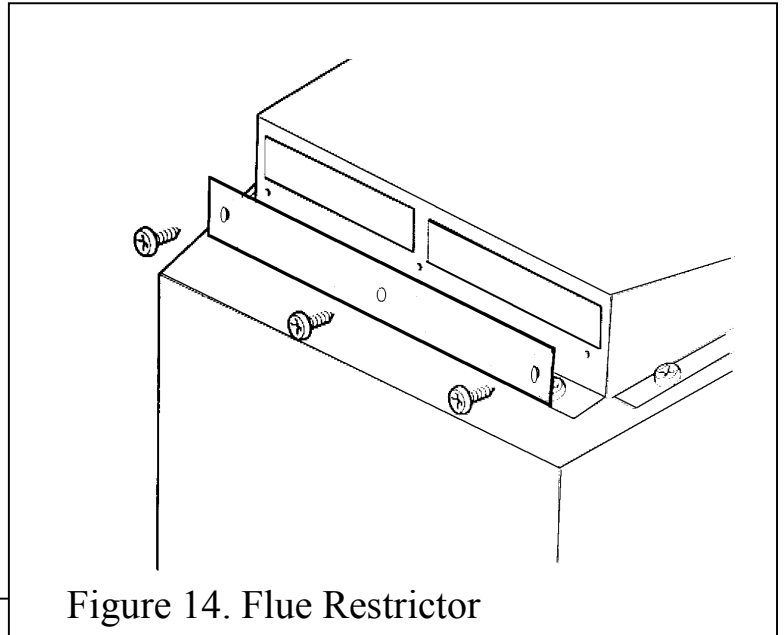

Figure 14. Flue Restrictor
6. The restrictor is packed loose with the appliance and is fixed with three screws. See figure 14.